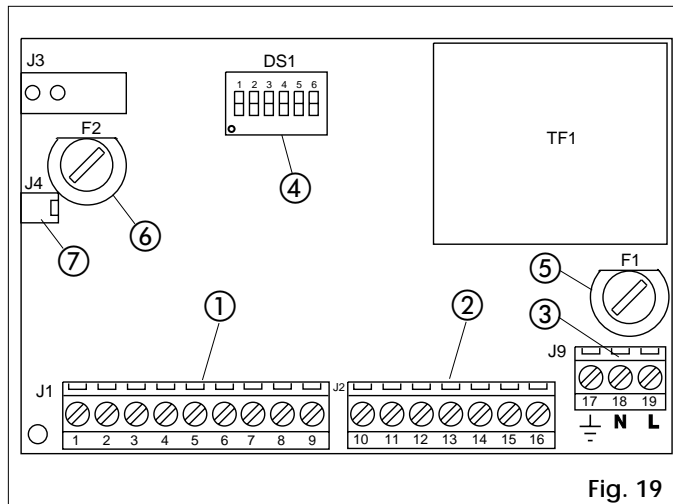

Fig. 19
Fuses	N. 2 (see fig.19)
① **J1 Terminal block:** low voltage (fig. 19) used to connect all accessories (see table 3).
② **J2 Terminal block** (fig. 19)
③ **J9 Terminal block:** (fig. 19)
④ **Programming microswitches**
⑤ **Fuse F1 5x20 5 A/250 V rapid (motor power supply)**
⑥ **Fuse F2 5x20 800 mA/250 V delayed (accessories power supply)**